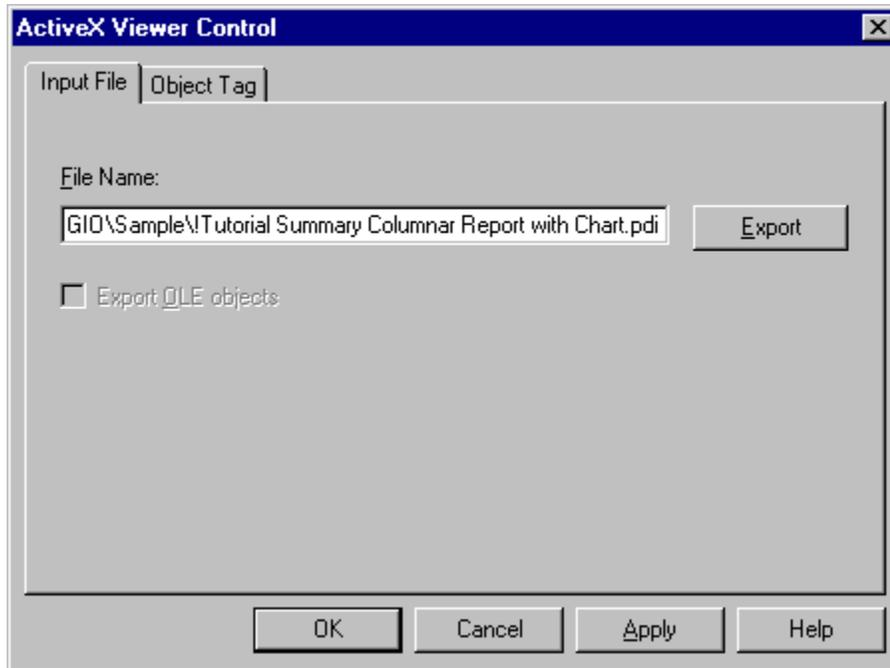

Figure 17.7 ActiveX Viewer Control Dialog
1. On the Export dialog box, highlight “ActiveX Viewer File” in the list box and select Edit to display the ActiveX Viewer Control dialog (see Figure 17.7).